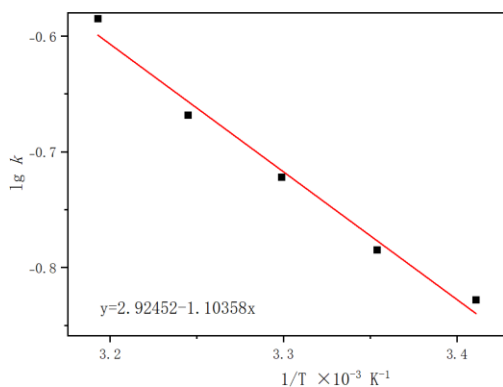

Fig.3
3. Effect of temperature on reaction rate: do $\lg k - 1/T$ graph **Fig.3** We can get its equation: $y = 2.92452 - 1.10358 \times 10^{-3}x$. Therefore, the A in **Arrhenius' Equation** is $A = e^{2.92452} \approx 18.62$. And the activation energy in this equation is $E_a = 1.10358 \times 10^{-3}R = 9.18 \times 10^{-3} J$.